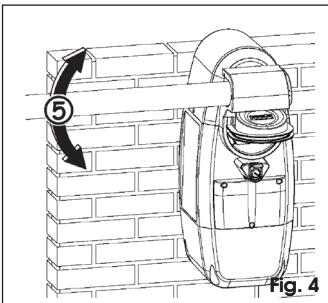

Fig. 4
4. Move the rod manually, Fig. 4.